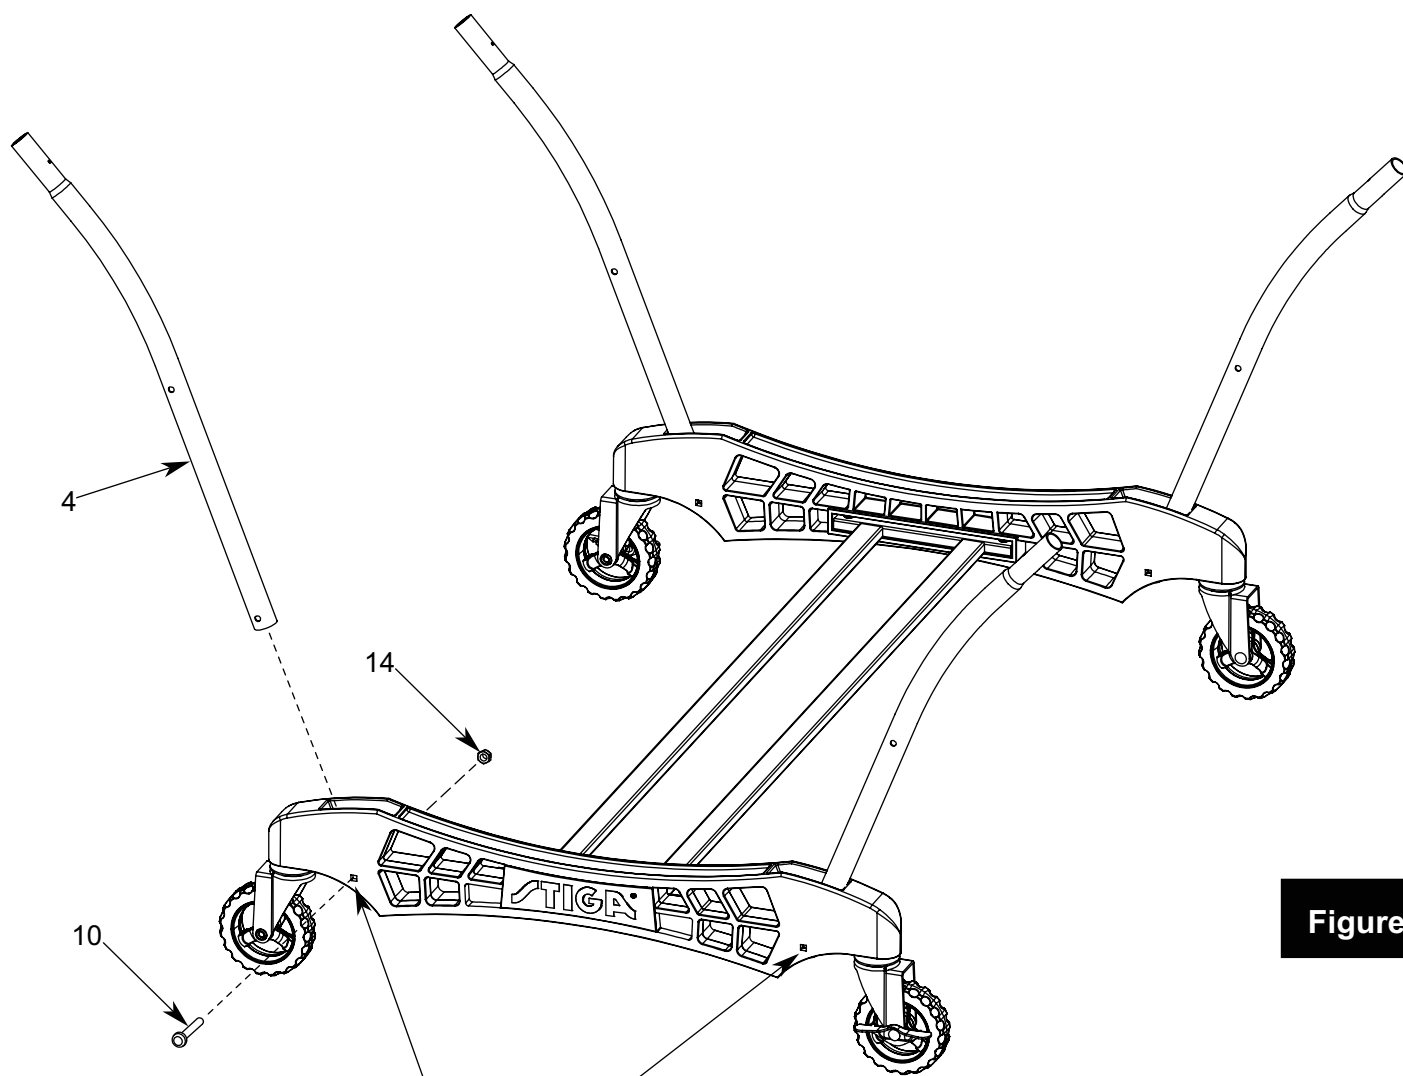

Figure 3
3. Attach four Strut Tubes (#4) to Caster Beam Assembly with four Carriage Bolts (#10) and four Locknuts (#14) as shown in **FIGURE 3**. Tighten nuts snug but **DO NOT** over tighten.